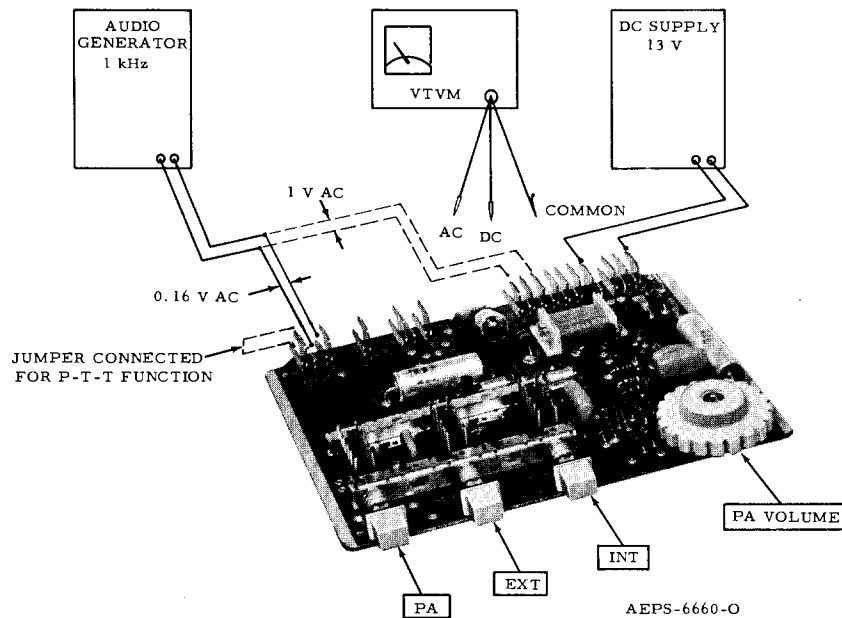

Figure 7.
(1) Remove four connectors from rear of the circuit card.
(2) Loosen two captive screws securing the rear housing cover and remove the rear cover.
(3) Remove the circuit card from the housing.
(4) Set up the public address circuit card as shown in Figure 7.
(5) Depress the INT button.
(6) Use the VTVM to make the following checks.
- Resistance indication between pins 3 and 6 of J2 is shorted with jumper connected as shown in Figure 7 and open with jumper removed.
(7) Depress the EXT button and use the VTVM to make the following checks.
(8) Apply the audio signal generator output to pins 7 and 5 of J3.
(9) Set the generator output to 0.3 V ac and check the amplitude between pins 19 and 5 of J3.
(10) Vary the PA VOLUME control and verify that indicated voltage smoothly follows volume control variations.
(11) Depress the PA switch and connect the generator output to pins 4 and 5 of J1.
(12) Connect the jumper as shown in the set-up diagram.
(13) With the meter connected as in step 9, note that the signal is present with the jumper connected and drops to zero when the jumper is removed.